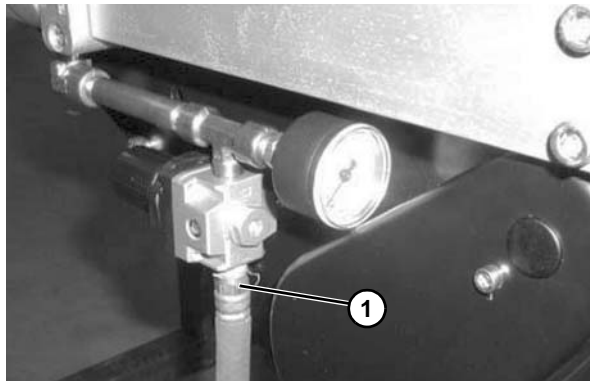

Figure 49
3. Remove air supply and remove hose (Figure 49, item 1) from the center drive.